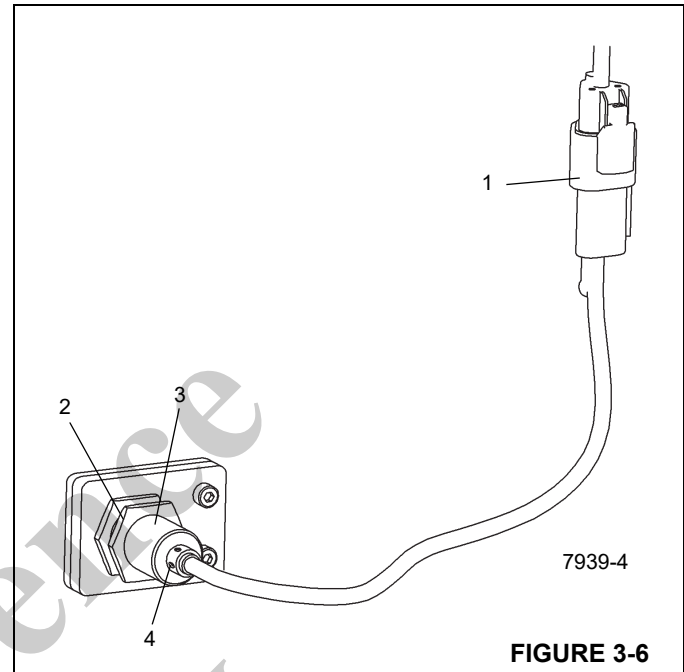

FIGURE 3-6
- Disconnect electrical connector (1, Figure 3-6) at switch.
- Loosen jam nut (2, Figure 3-6) securing switch (3) to stabilizer box; remove switch.
- Thread switch (3, Figure 3-6) into stabilizer box so that face of switch is recessed 1 to 2 mm in the wear pad.
- Tighten jam nut (2, Figure 3-6) on switch.
- Connect electrical connector (1, Figure 3-6) to switch.
- With power on and stabilizer beam fully extended, ensure LED (4, Figure 3-6) on proximity switch illuminates; retract stabilizer beam and ensure LED is not illuminated.